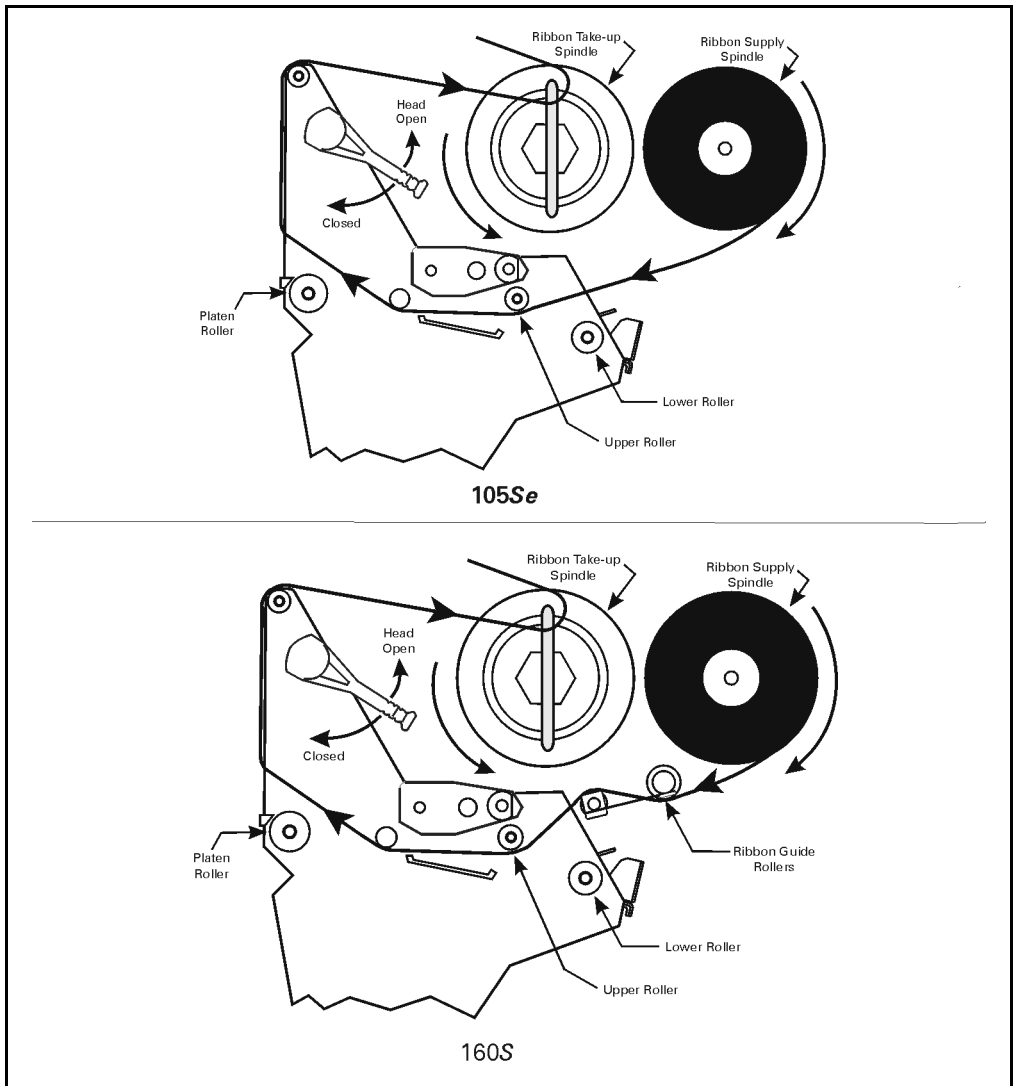

Figure 4
Refer to Figure 4 throughout this procedure.
5. Thread the leader and attached ribbon as shown in Figure 4. Be careful not to crease or wrinkle the ribbon.